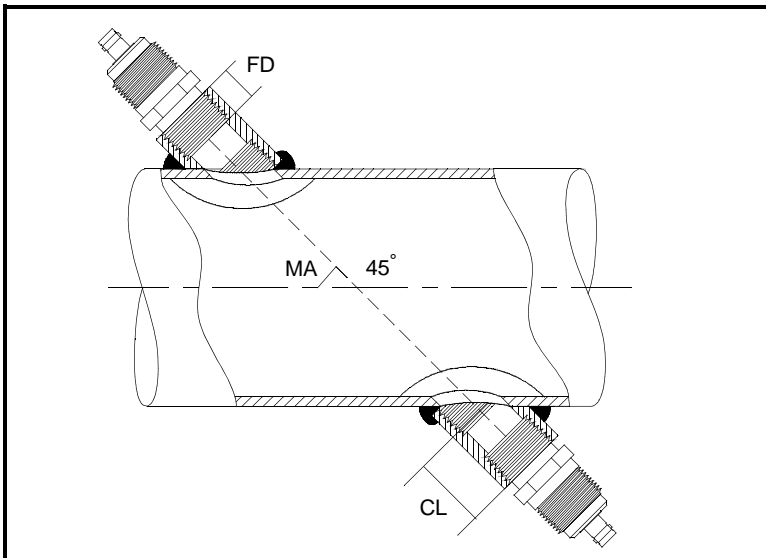

Figure B-2: Determining the Pipe Coupling Length
- the pipe inside diameter (ID)
- the wall thickness (WT)
- the installed pipe coupling length (CL)
- the transducers face depth (FD)
- the mounting angle (MA)
Use Figure B-2 below to properly measure the coupling length. Typically, the transducer face is positioned just outside the inside diameter (ID) of the pipe, or slightly retracted inside the coupling.